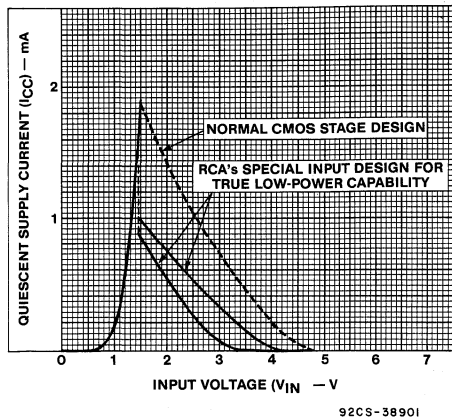

Fig. 30: I_{CC} vs. V_{IN} for QMOS HCT types
Fig. 30 illustrates the typical I_{CC} vs. V_{IN} characteristic of HCT type QMOS ICs. Again, if input voltages are 0.1 V or (V_{CC}-0.1 V), no ΔI_{CC} value exists. Also for V_{IN}=0.4 V, ΔI_{CC} is zero. If V_{IN}, however, is an LSTTL logic high level of (V_{CC}-2.1 V) or approximately 3 V for V_{CC}=5 V, then **significant** ΔI_{CC} does exist and is indicated in equation (B) as the ΔI_{CC} component.
The special input design of RCA's HCT types greatly reduces the value of ΔI_{CC} such that the added power is very small; for example, QMOS HCT power is minimal compared to LSTTL power. If this special input circuitry were not used, the ΔI_{CC} values would be relatively high as demonstrated by the dashed line in Fig. 30, and the HCT type would not have very low power when compared to LSTTL.